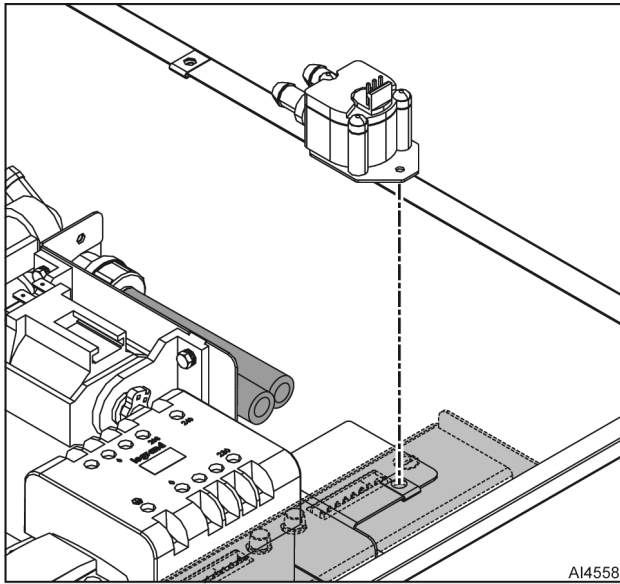

Fig. 49
3. Disconnect hoses from flow meter (Fig. 49).